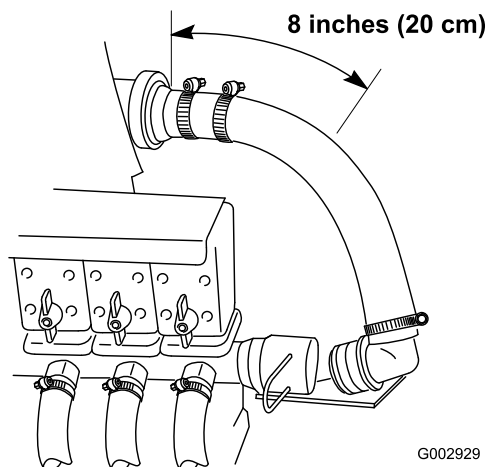

Figure 10
1. Remove the retainer securing the end of the boom supply hose connected to the tee located to the right of the boom supply valves and disconnect it (Figure 10).
2. Cut the boom supply hose 8 inches (20 cm) to the right of the flow meter (if equipped) or 45 inches (114 cm) from the supply tee (located directly behind the boom valves) using a hacksaw (Figure 10). Remove the hose clamp from the loose end and discard the hose and fitting.